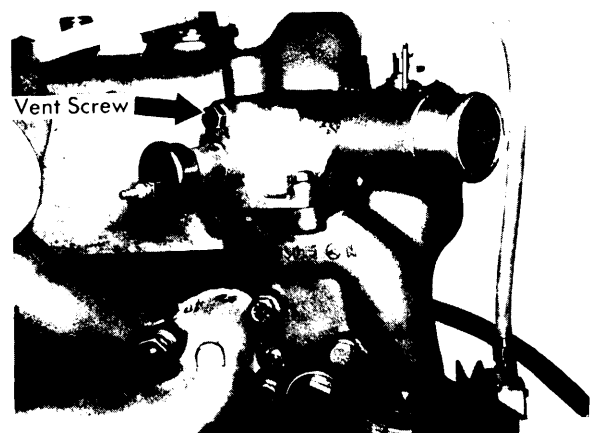

Fig. 14 Thermostat Housing Vent Screw
**NOTE** — When filling engine with water, vent screw on thermostat housing must be removed until water flows from it. See Fig. 14.